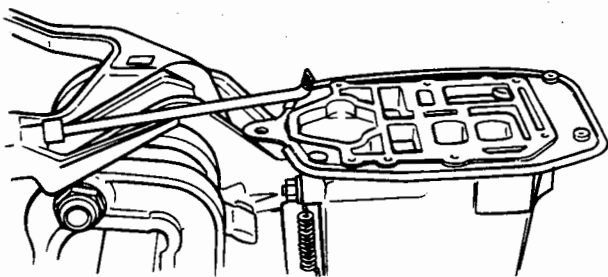

Fig. 82 Lower motor cover
- 5) To remove the lower motor cover pull out the throttle shaft B. (It can be removed without stripping the shift lever and its related parts.) (Figs. 82, 83)